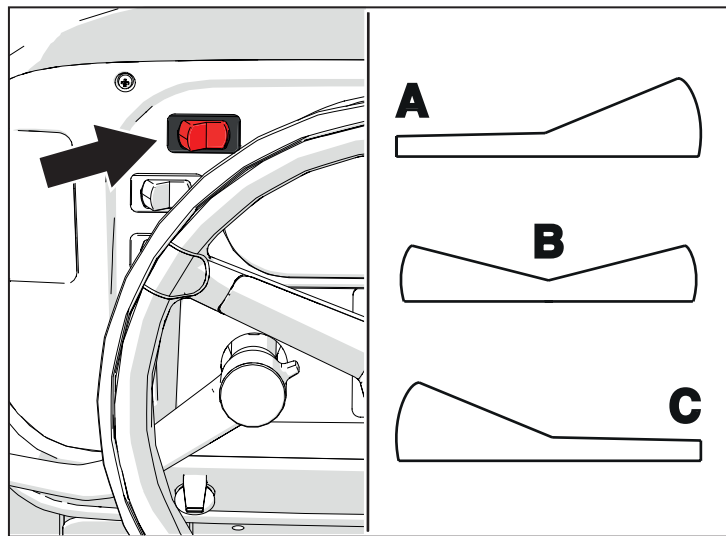

Fig. 5.14
If regeneration is started in an unsafe location, the cycle may be disabled by setting the switch to (C), see figure 5.14. The symbol (2) appears on the LCD display if regeneration is disabled.